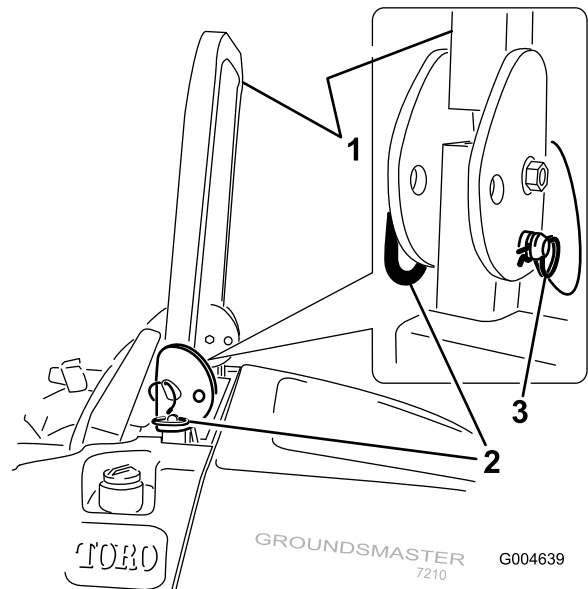

Figure 11
1. To lower the roll bar, remove the hairpin cotters, push the roll bar forward against the springs, and remove the two pins (Figure 11).
3. Install the two pins and secure them with the hairpin cotter pins (Figure 11).
4. To raise the roll bar, remove the hairpin cotter pins and remove the two pins (Figure 11).
5. Raise the roll bar to the upright position and install the two pins and secure them with the hairpin cotter pins (Figure 11).